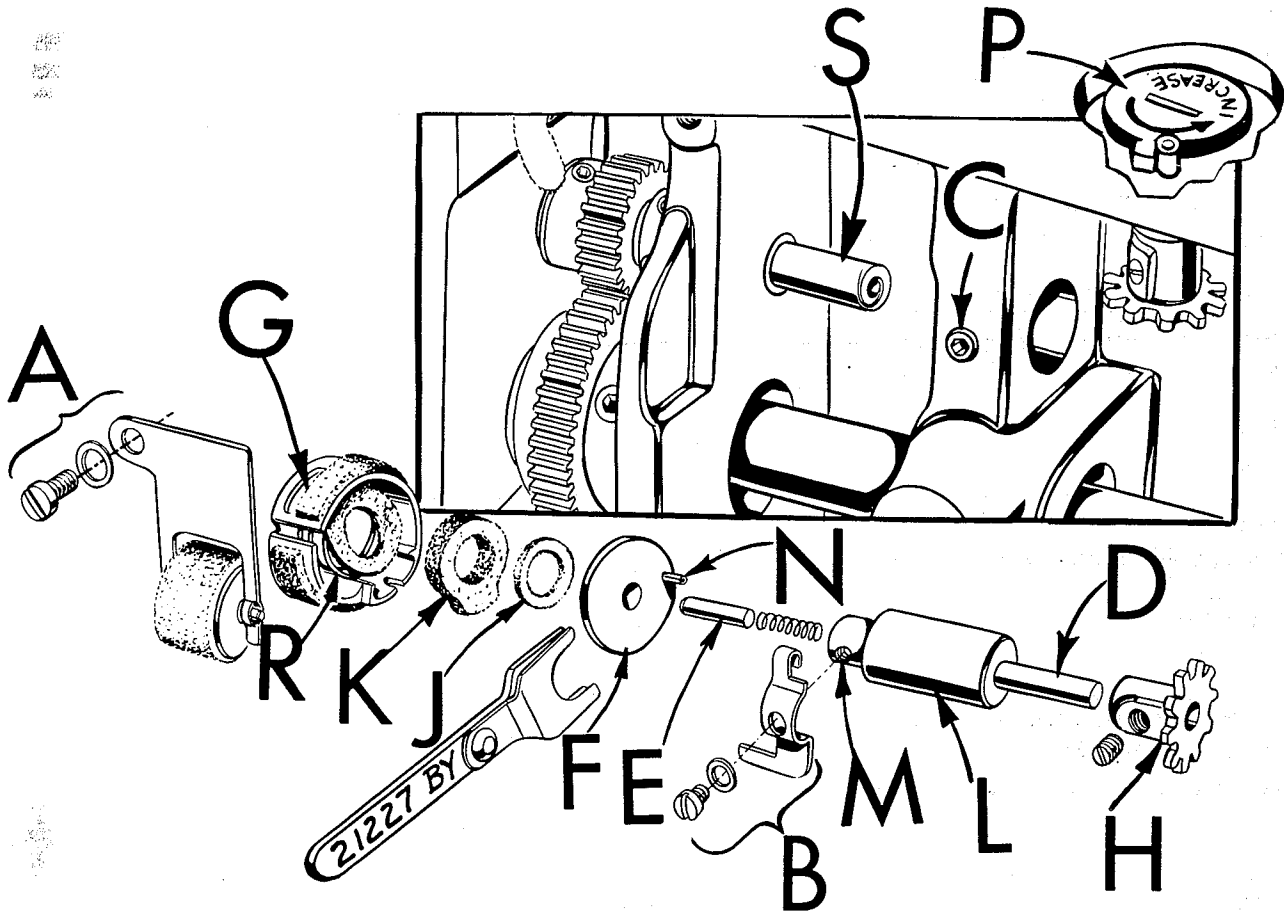

Fig. 20
Hook oiling is accomplished by a high speed rotary pump on the end of the hook shaft. The quantity of oil supplied to the hook is regulated by the longer or shorter path the oil is required to travel through the metering felt of metering cup (G, Fig. 20). (Increase or decrease of oil supply is controlled by a dial (P, Fig. 20) with an arrow marked "INCREASE", found below the cloth plate). The hook oil feed roller (A, Fig. 20) which rests against the metering cup felt serves not only to feed oil to the unit from the oil reservoir, but filters the oil as well.
1. Remove hook oil feed roller (A, Fig. 20).
2. Remove hook oil control finger (B).
3. Apply finger pressure to hook oil control shaft (D) to prevent loss of pump disc pivot pin (E); using Allen wrench, loosen set screw (C). Move assembly slowly to right, being careful not to drop pivot pin located in the end of the hook oil control shaft. When pivot pin is clear of pump disc (F), disc is free to fall.
4. Remove metering cup (G) along with oil supply felt (K) and air seal felt (J).
5. Remove cog (H) from hook oil control shaft.
1. Remove and separate the air seal felt (J, Fig. 20) from oil supply felt (K).
2. Make sure small end of air seal spring (R) is located on boss of metering cup behind felt attached to cup. Position metering cup (G) and air seal spring on hook shaft (S) with open end toward handwheel end of machine (Fig. 20).